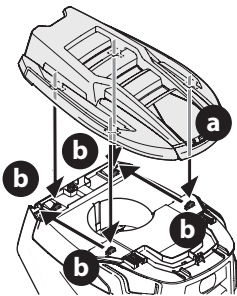

Figure 7
1. To install the snap-on hood topper (a), line up the holes on the hood topper (a) with the tabs (b) in the hood frame (Figure 7).